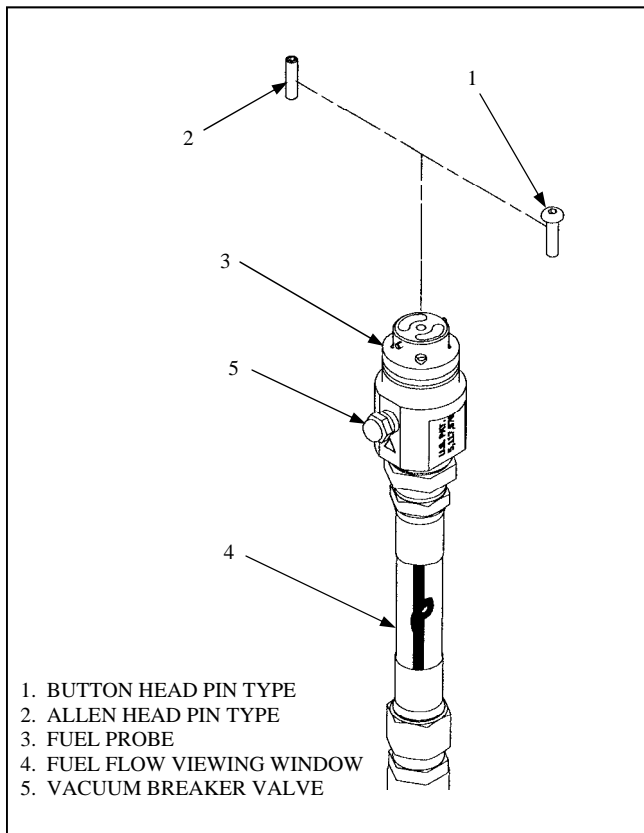

Figure 4-5. Fuel Probe and Pins
4.6.2.2.2 Determining Fuel Probe Pin Length. Use the following steps to determine proper Fuel Probe Pin length. See Figure 4-5 for supporting diagrams.
- a. Determine which pin type (1) or (2) is most appropriate for the poppet drain valve being opened.
- c. Thread pin (1) or (2) into Fuel Probe end (3) and tighten.
- q. Observe fuel flow in Fuel Flow Viewing Window; see Figure 4-5, 4.
- r. To stop draining, push and hold Vacuum Breaker Valve; see Figure 4-5, 5, on probe, un-lock probe and pull out of drain tool.